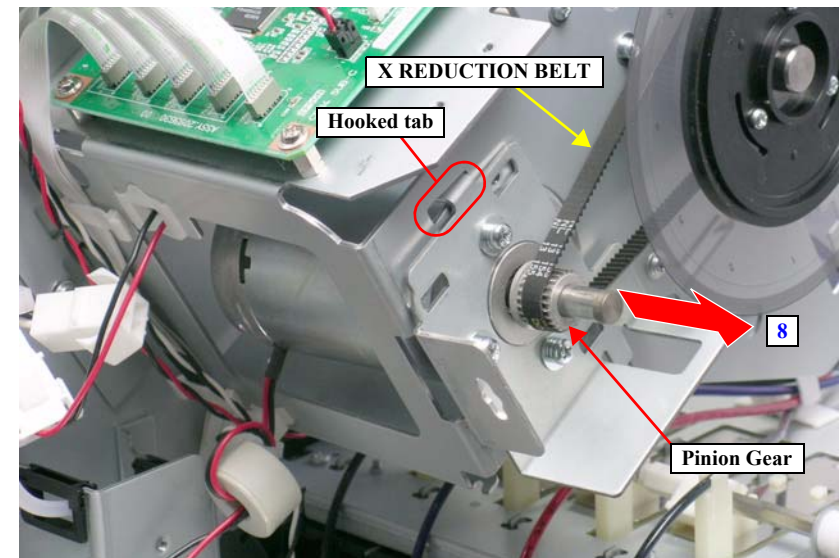

Figure 4-86. Removing the PF Motor Mounting Plate
8. Release the hooked tab of the PF Motor Mounting Plate, remove the X REDUCTION BELT from the pinion gear of the PF MOTOR ASSY., and then remove the PF Motor Mounting Plate together with the PF MOTOR ASSY. *See Figure 4-86.*